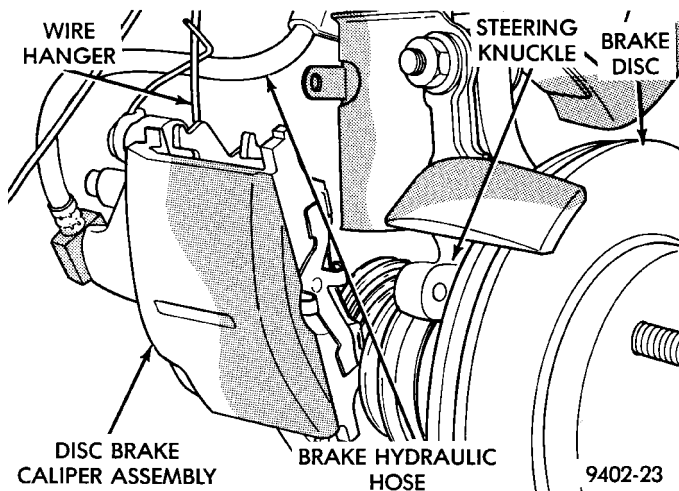

Fig. 60 Storing Caliper
(5) Support caliper firmly to prevent weight of caliper from damaging the flexible brake hose (Fig. 60).